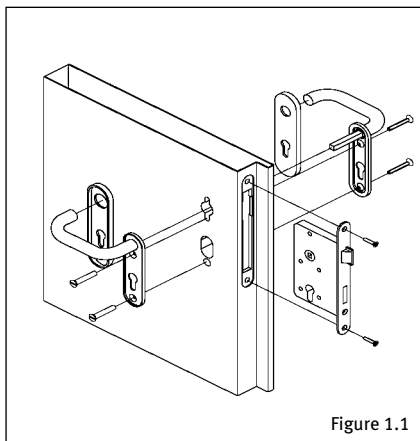
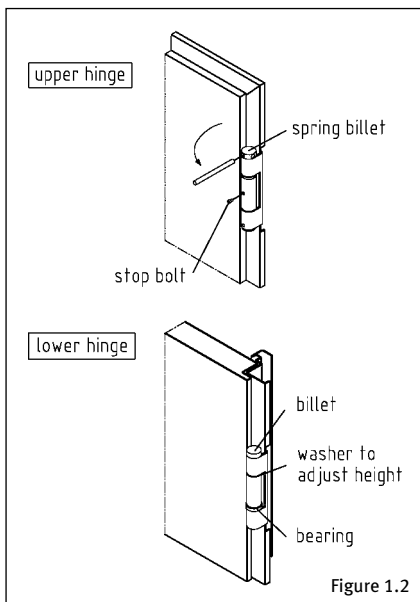

Figure 1.1
Figure 1.2
- 3.5 Align the frame to rule mark and wedge vertically and horizontally. Fasten the frame on the hinge side and hinge the door leaf (grease the steel hinge bars) (Figure 1.2). Align and fasten the lock side according to the door leaf and crop hinges wherever necessary, refer to chapter 3.9 if necessary (check 4 mm gap). Fasten the plate and handle with screws (Figure 1.1).
- 3.6 Slightly pretense the helical hinge with the attached round bar and lock with stop bolt. The fire-proof and smoke-tight door has to close by itself from any position. Place washers to adjust door height (Figure 1.2).